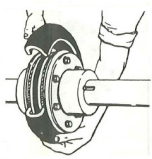

Figure 5
2. Wrap flexible element around flanges as shown in Figure 5. Make sure beads of element are fully worked down upon the seats. To ensure proper seating, tap around the tire's outside diameter with a small mallet until split is closed. Make sure element is evenly centered on the flanges.